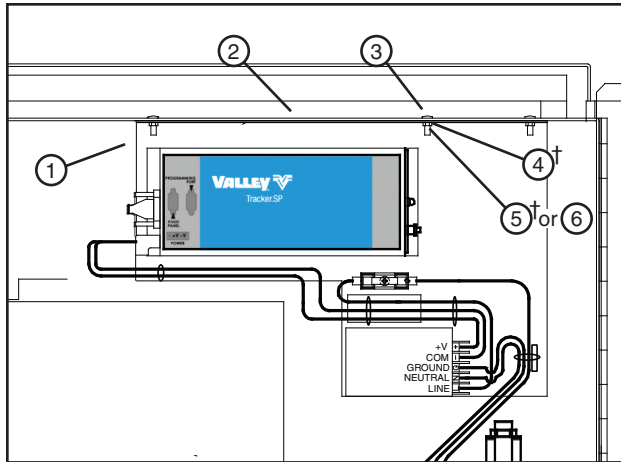

Figure 12-1 1. Mounting Panel 2. Inner Door 3. Screw 4. Lock washer 5. Nut 6. Nut W/ Ext. Th Lock Washer
- Align the 3 holes in the TrackerSP assembly mounting panel with 3 holes in top of control panel inner door. See figure 12-1.
- Attach mounting plate to inner door with either three #8-32 screws, lock washers and nuts or three #8-32 screws and hex nuts with external tooth lock washer†. See figure 12-1.